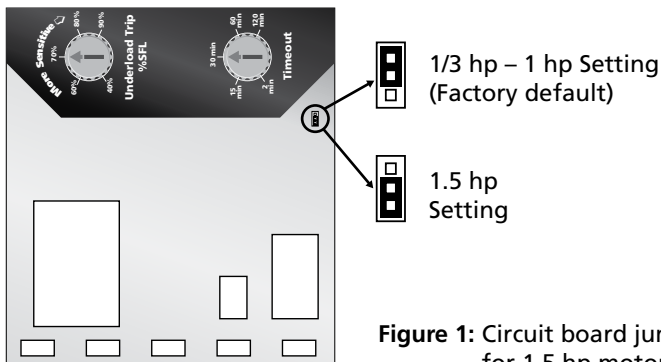

Figure 1: Circuit board jumper for 1.5 hp motors
2. If you will be running a 1.5 hp motor, move the circuit board jumper to the 1.5 hp position as shown in Figure 1.